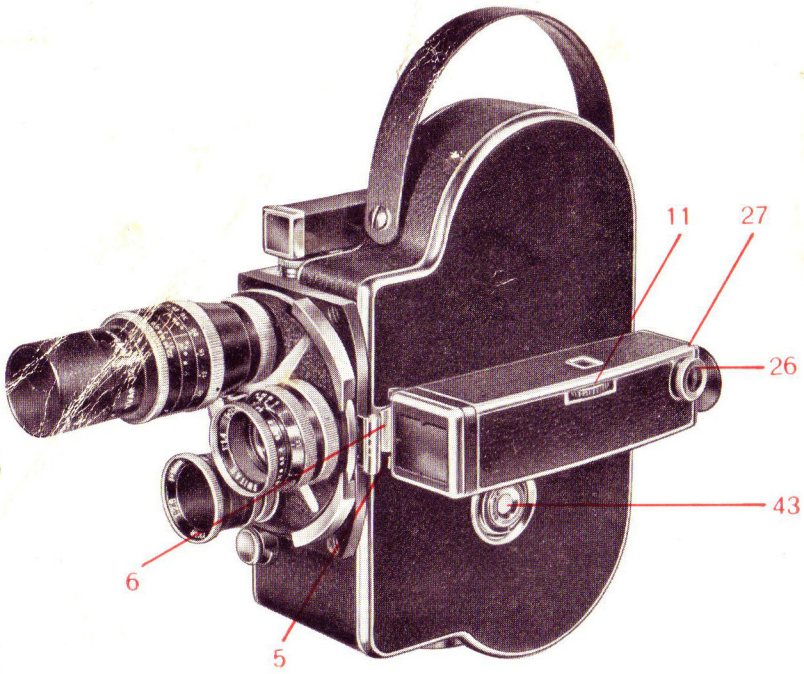

Fig. 9
- e. Remove the lid by means of button **43** (Fig. 9), giving a half-turn anti-clockwise (0 ←).